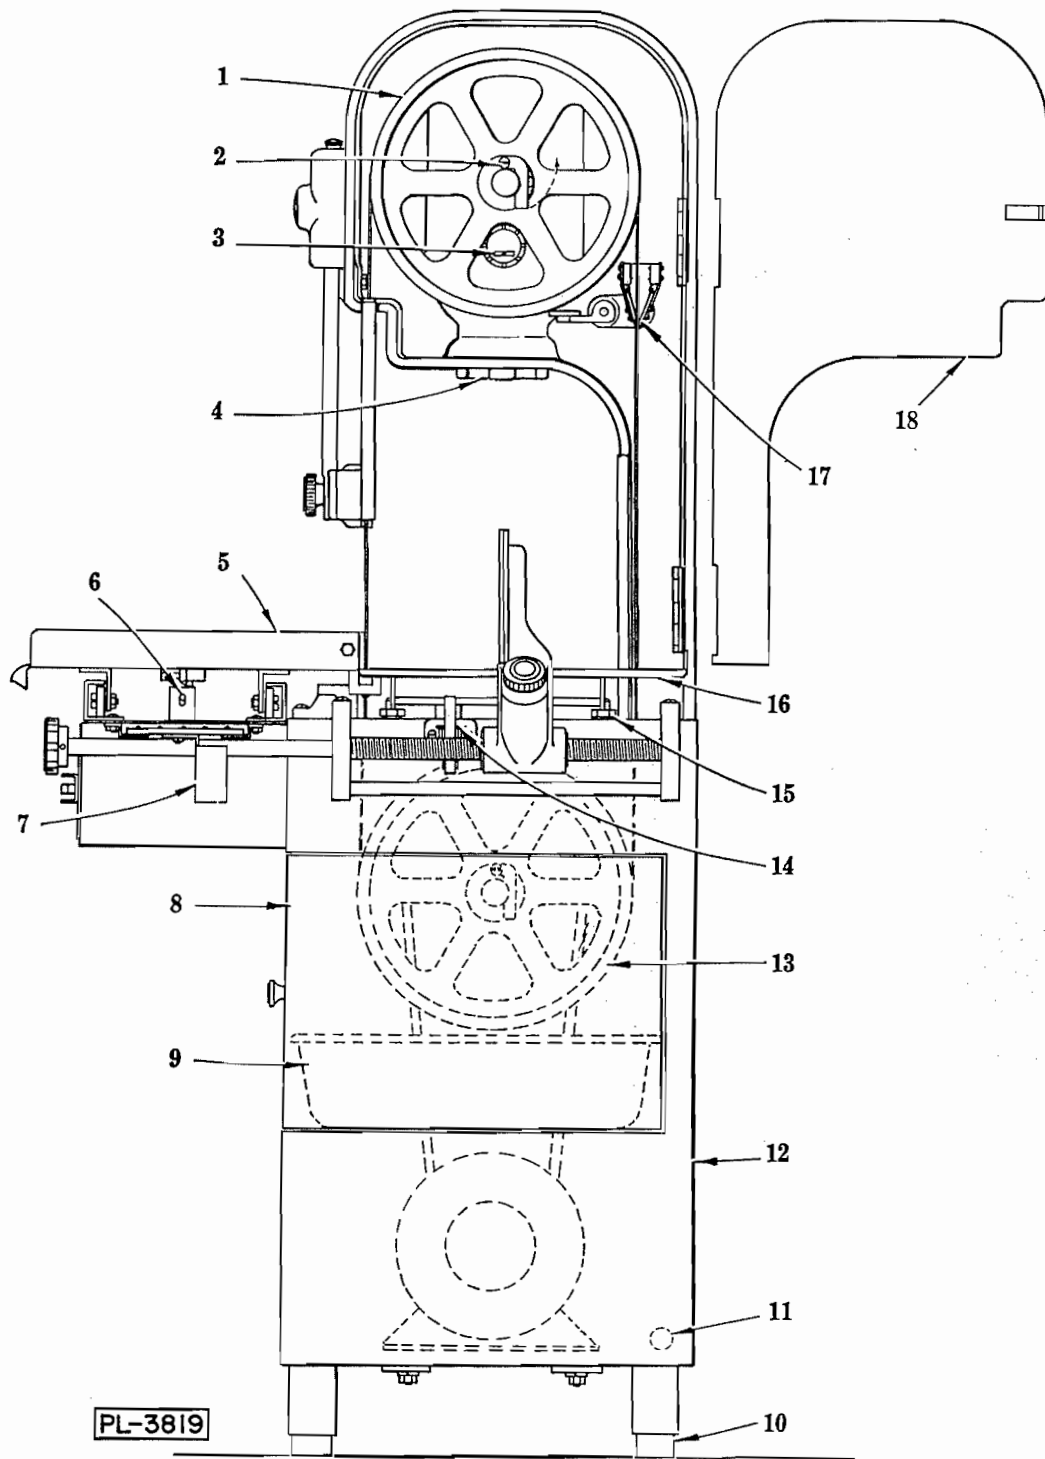
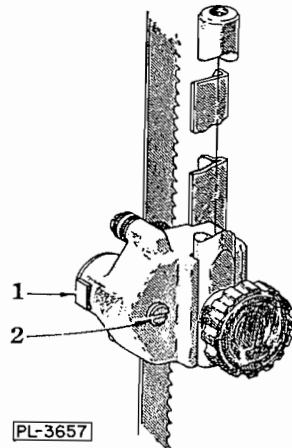
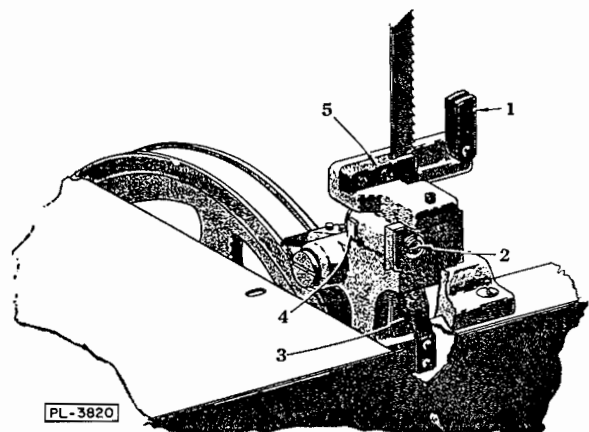
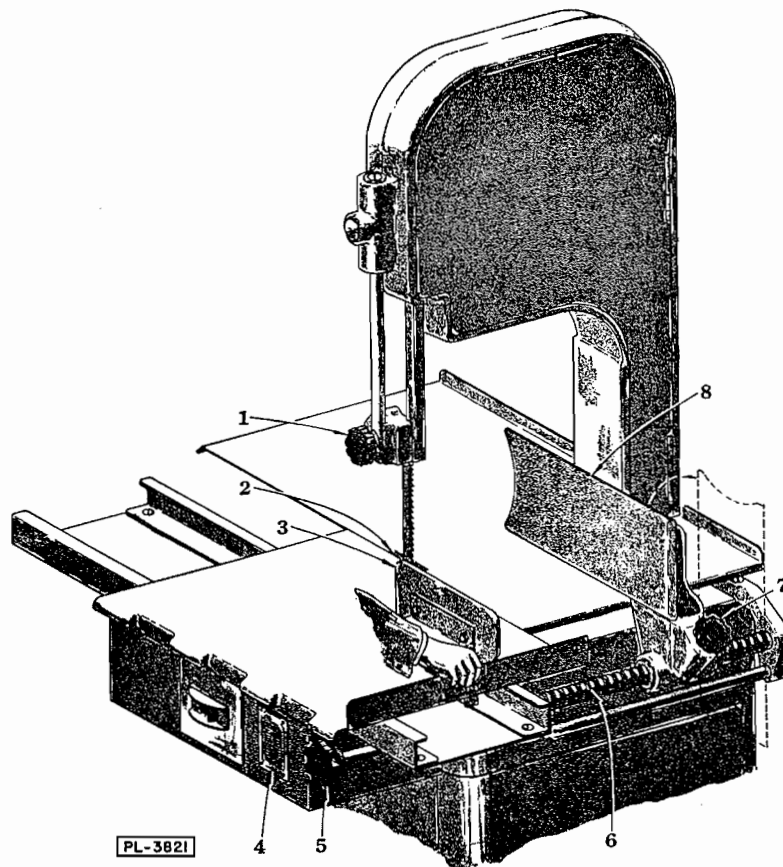

FIG. 1
FIG. 2
FIG. 3
FIG. 4
(1) Place the machine in the location where it is to be used. Assemble the feet (10, Fig. 1). Place a spirit level on top of the base unit and adjust the feet in the legs so that the base unit is level from side to side and front to back.
(2) Lower the upper blade pulley (1, Fig. 1) by giving the tension adjustment hand wheel (4, Fig. 1) a few turns to the left. Open the head door (18, Fig. 1). Lift out the lower wiper unit (Fig. 3) and place the saw blade over the upper (1, Fig. 1) and lower (13, Fig. 1) blade pulleys. The teeth must point to the right and downward when viewed from the front as shown in Fig. 3. If they do not point downward, remove the blade, twist inside out and replace it on the saw. Make sure the blade is centered in the upper blade wiper (17, Fig. 1) and properly placed in the upper guide unit (Fig. 2).
Turn the tension adjustment hand wheel (4, Fig. 1) to the right until the tension indicator (3, Fig. 1) reads "2". Give the upper pulley a few turns by hand so that the blade centers itself on the pulleys, then turn the tension adjustment hand wheel slowly to the right until the indicator registers between "3" and "4". This is the best operating tension for the blade.
(3) Put in the lower wiper unit (Fig. 3). Before sliding it into place, swing up the bakelite guard (1, Fig. 3) and see that the saw blade is between the two wipers (3, Fig. 3) and in the guide slot of steel block (5, Fig. 3). After sliding the unit into place, close down the bakelite guard (1, Fig. 3).
(4) To put on the table (16, Fig. 1), swing gage plate (8, Fig. 4) to vertical position, clear of table area. Locate table into position by the locating block (2, Fig. 4), being sure the support angles on the underside of the table are inside the locating pins of the four table rests (15, Fig. 1) on the base (12, Fig. 1). Then lock in place by closing the spring catches (14, Fig. 1) at each end.
(5) The carriage (5, Fig. 1) may be put on from either side. While rolling it into place, hold down the carriage stop (6, Fig. 1). When the stop is released, it will prevent the carriage from rolling off.
Before connecting to the power line, check the data on the name plate (4, Fig. 4) to make sure that the motor is correct for your electric service. Make your installation connection from the power line directly to the switch. In order to avoid having conduit at the front of the machine, it is recommended that flexible (or rigid) conduit be connected through the electric inlet hole in the base (11, Fig. 1). The motor and switch are connected at the factory.
(1) UPPER GUIDE ASSEMBLY (Fig. 2). Keep as low as the size of the work permits.
(2) DOORS. Keep doors (8 & 18, Fig. 1) closed when the machine is running.
(3) BUTT-END PUSHER (3, Fig. 4). Use this device as described in paragraph VI and it will be unnecessary to hold your hand near the running saw blade.
(4) GAGE PLATE. The end of the gage plate (8, Fig. 4) is shaped to give maximum support and protection at this critical point, and at the same time, facilitate the taking off of slices.
(2) Apply a few drops of oil occasionally to the gage plate screw (6, Fig. 4) and work the gage plate assembly back and forth a few times.
(3) Once a year, have a Hobart service man look over the motor and main bearing carriers.
When cutting slices of uniform thickness, set the gage plate at the desired point with adjusting knob (5, Fig. 4) on the scale etched on the table. If the gage plate is not needed and interferes with the work, it may be pushed out of the way. Lift the release knob (7, Fig. 4) and slide the gage plate on back to the end of screw (6, Fig. 4). The gage plate may be swung to a vertical position at any setting along the rack without lifting the release knob.
To slice short ends, use the pusher plate (3, Fig. 4) to hold the meat against the gage plate. A groove in the pusher plate slips over and slides along the up-turned edge of the carriage. Hold
the pusher with your right hand as shown in Fig. 4. Your hand will then always be a safe distance from the saw blade and the stop will prevent the pusher plate from going too far. When not using the pusher plate, keep it stored beneath the carriage track as shown at (7, Fig. 1), where provision has been made for holding it.
(1) Roll carriage to extreme right or left. This exposes the carriage stop. Depress carriage stop and roll off stainless steel carriage.
(2) Rotate gage plate to vertical position.
(3) Release table clamps and remove stainless steel table.
(4) Loosen hand knob (that retains upper blade wiper), bump with hand to loosen stud and then remove hand knob. Open head door (18, Fig. 1) and lift out upper blade wiper (17, Fig. 1). Clean unit and lubricate with **TASTELESS** oil.
(5) Swing lower saw blade guard (1, Fig. 3) up and lift out lower wiper assembly. Clean unit thoroughly and **LUBRICATE WITH TASTELESS OIL**.
(6) Remove Scrap pan (9, Fig. 1).
(7) Release blade tension by turning tension adjusting hand wheel (4, Fig. 1) to the left. Open head door and swing the upper blade guard down to horizontal position. Remove saw blade.
(8) To remove the upper guide unit (Fig. 2), remove the hand knob (1, Fig. 4) (blade tension already released) then lift off unit. Clean, lubricate with **TASTELESS** oil and replace.
(9) Remove upper and lower pulleys by swinging the pulley retaining latches (2, Fig. 1) clear of the shafts. Slide pulleys off. Clean pulleys and oil bore before replacing.
the upper blade pulley (1, Fig. 1) by hand to center the blade, and then turn the hand wheel until the indicator registers between "3" and "4". Make sure the upper blade wipers (17, Fig. 1) are on both sides of blade.
At the back edge of the saw blade in the upper guide (1, Fig. 2) and the front lower wiper unit (4, Fig. 3) are special tungsten carbide blade back-up blocks (eliminating the old fashioned ball bearing back-up). These special blocks take the cutting thrust. The clearance between these blocks and the blade, with the saw running without load, should be approximately  $1/32''$ . Always check this dimension after changing blades. These back-up blocks should be adjusted to suit any variation in blade widths.
NOTE: Adjust the upper back-up block (1, Fig. 2) by turning screw (2, Fig. 2) and lower back-up block (4, Fig. 3) by turning the screw (2, Fig. 3).